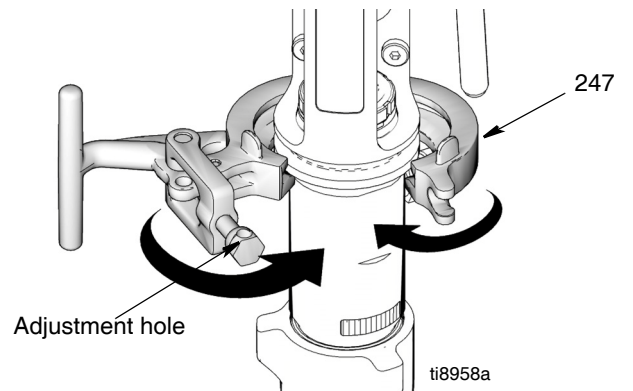

FIG. 21
2 (Fig. 21) Install pump (111) in sprayer.